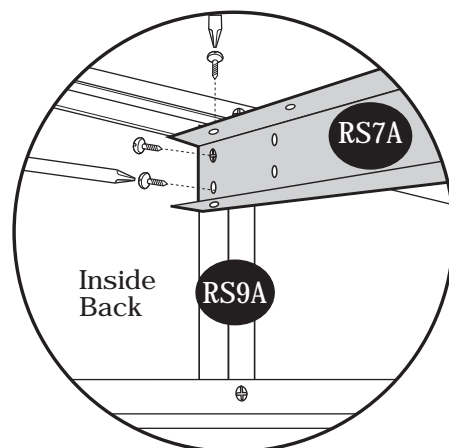

fig.2
22. Attach the roof structures (RS4A) 4 nos. to (RS5A), (RS6A) assembly and (RS5A), (RS7A) assembly and (RS3LA), (RS3SA) with (S1) screws. See (fig.1) (fig.2) (fig.3) and (fig.4)